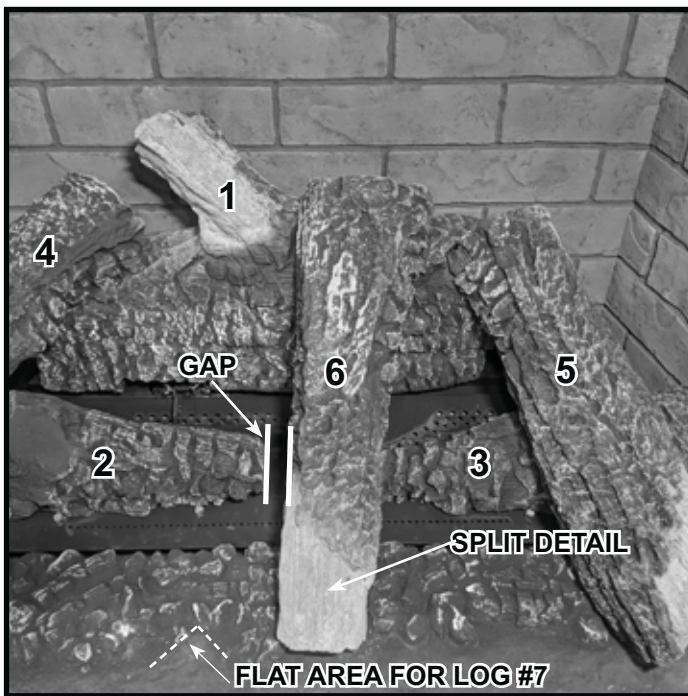
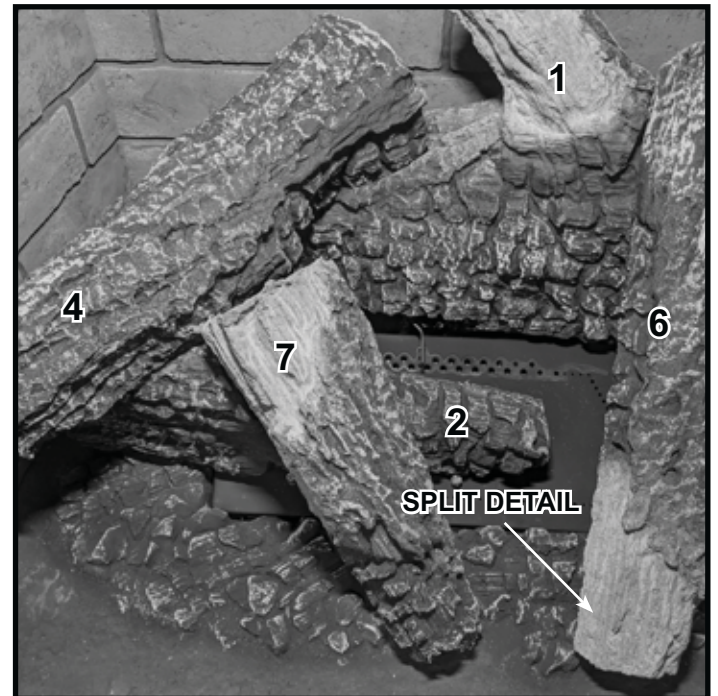

Figure 11 Place Log #6
Figure 12 Place Log #7
**Log #6:** Place the end of Log #6 that has the burn detail on the flat area of Log #1 and the end of Log #6 that has the split detail as shown in Figure 11. Refer to Figure 4 and Figure 5 for the location of the flat areas.
**Log #7:** Place Log #7 with the split detail in the flat area of Log #2 noted in Figure 6. The end of Log #7 that has the burn detail is placed in the flat area noted in Figure 11. Figure 12 shows Log #7 in position. Figure 13 shows the proper spacing dimensions between Log #7, Log #6 and Log #5.